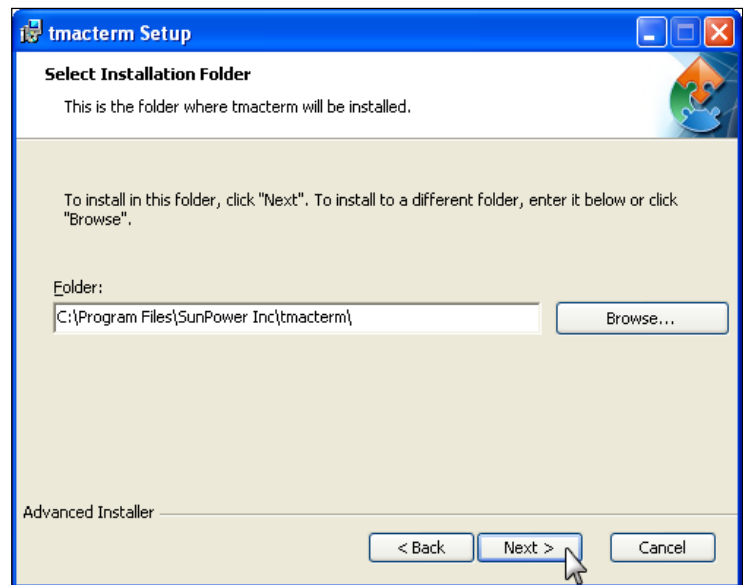

Fig. 32
4. Select the folder where you want DTMAC term installed and click *Next* (Fig. 32).